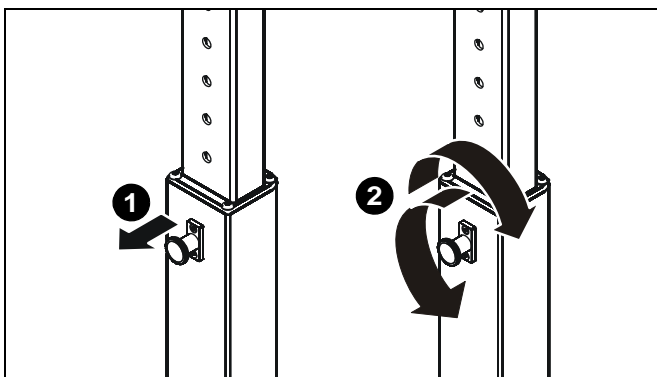

Figure 6
1. Adjust the stand to the desired height by holding the top part of the post, pulling out knob on the center post and turning 90° in either direction to disengage the locking mechanism. (See Figure 6)
2. Raise or lower the center post, then turn the knob 90° either direction to engage the knob and lock the stand at desired height. (See Figure 6)
IMPORTANT ! : Set the height of the stand so the display does NOT rest on the lower part of the post. (See Figure 6) Always set the height so the knob is engaged in a hole in the center post.